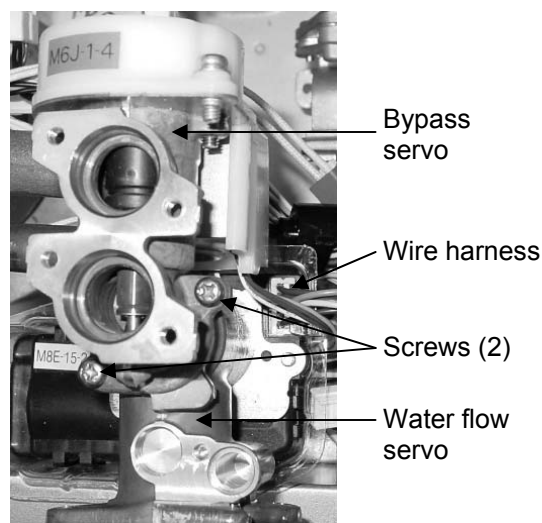

Figure 3
8. Pull out the water flow servo assembly and bypass servo assembly. Remove the wire harness from the water servo valve. (Figure 3)
9. Remove 2 screws in order to separate the bypass servo assembly from the water flow servo assembly. (Figure 3)